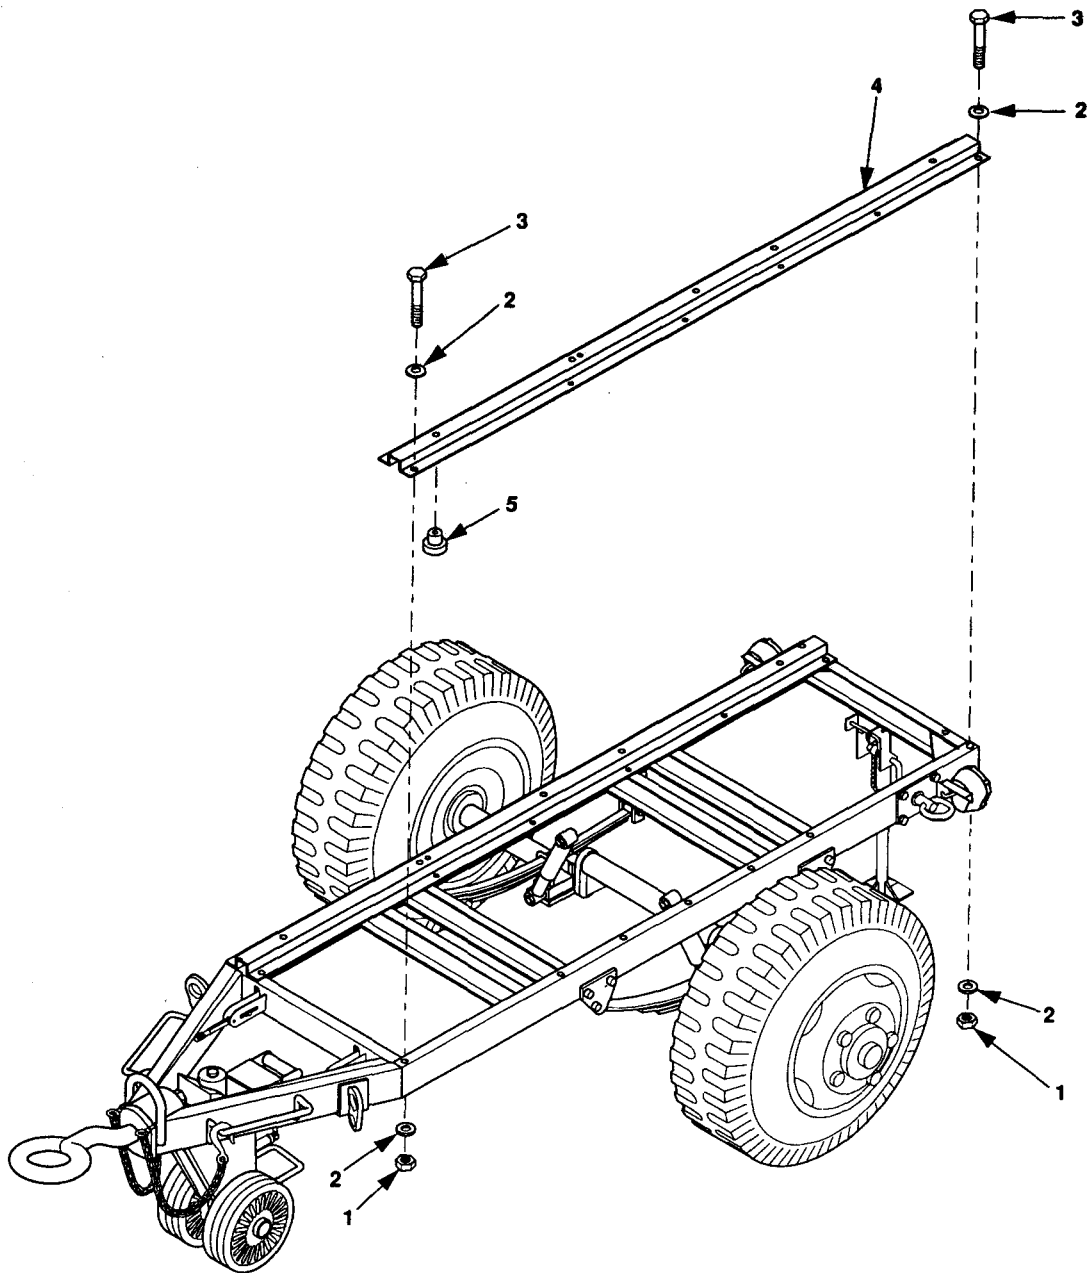

Figure 5-22. Replace AN/WJQ-36 Generator Mounting Rail.
Remove self-locking nuts (1, figure 5-22), flat washers (2), cap screws (3) and mounting rail (4).